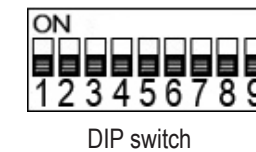

fig. 4
- fig. 4:** Motion sensor setting via dip switch. Settings see page 11.